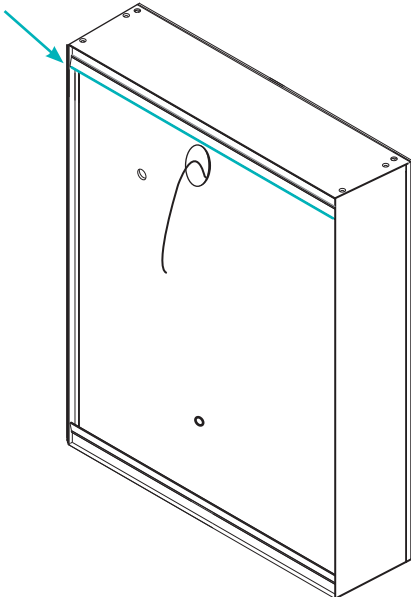

Fig 3. - Mounting Points
6. Temporarily hang the cabinet on the top bracket, *see Fig. 3*, to mark the position of the internal fixing hole, then remove the cabinet. Using a suitable drill bit, drill a hole and insert a wall plug as per stage 3.